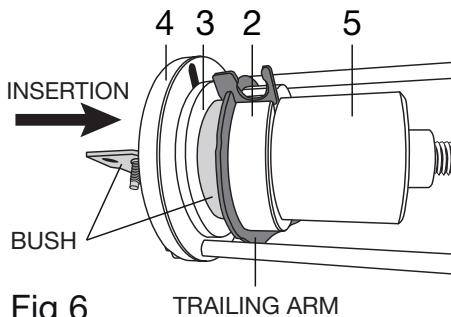

Fig 6
- Assemble the bush and bush tool components on the arm as shown in **Fig 6**. Remember the bush must be pushed in by the press frame support ring (4) and split washer ring (3) in the direction shown.